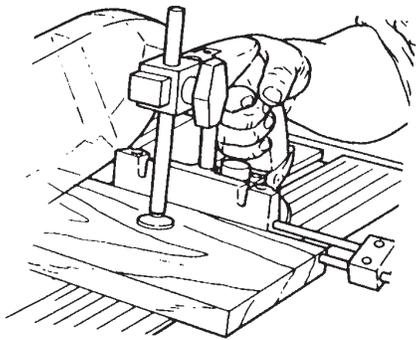
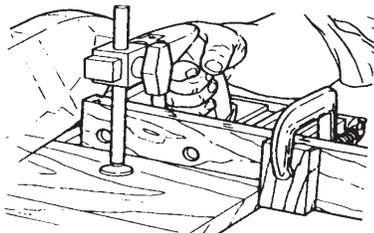

Figure D-3
Figure D-4
8. To cut short lengths, use a miter gauge stop rod. See Figure D-3. Or clamp a stop block to a miter gauge extension. See Figure D-4.